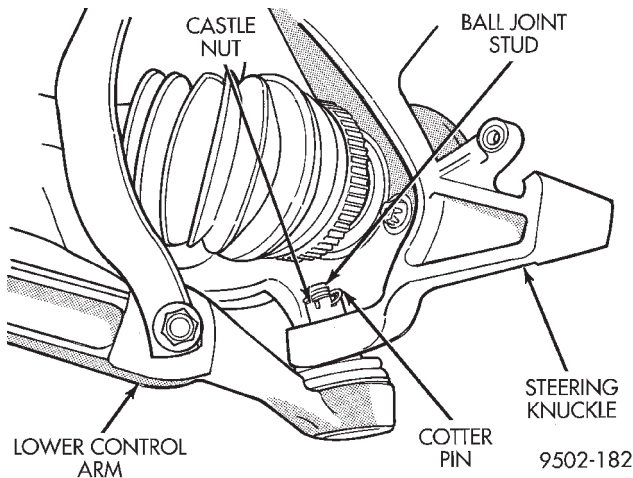

Fig. 39 Lower Ball Joint Attachment To Steering Knuckle
(13) Remove cotter pin and castle nut (Fig. 39) from the stud of the lower ball joint.